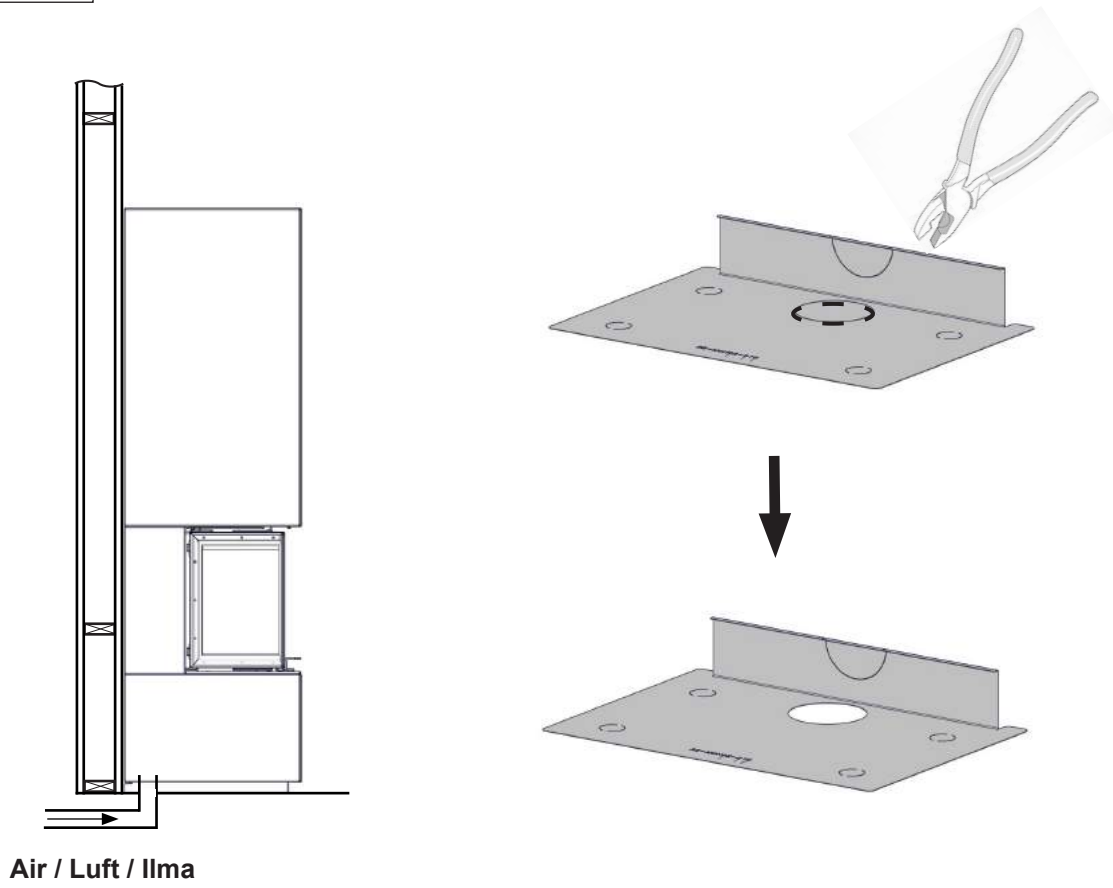

FIG 4
FIG 4 a Monaco II Low Base\_Q-34 UL
FIG 4 b Monaco II Low Base\_Q-34 UL
**FIG 4 c** Monaco II Low Base\_Q-34 UL